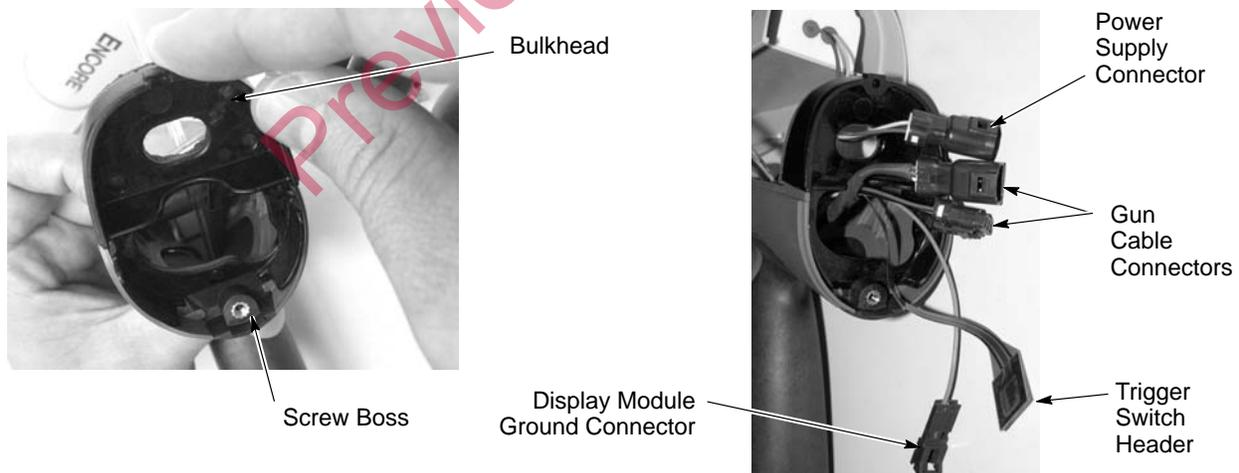

Figure 5-13 Assembling Bulkhead and Routing Cables
14. See Figure 5-13. Position the lower edge of the bulkhead (8) behind the screw boss in the rear of the handle assembly and rotate the top of the bulkhead forward until it snaps into place on the handle and gun body.
15. Feed the power supply J2 connector through the top opening in the bulkhead (8).